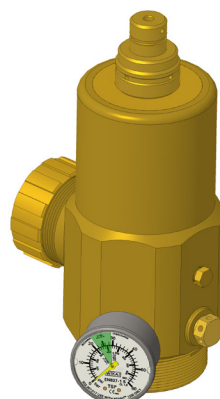

FIGURE 6-19
3. Carefully screw the pneumatic actuator to the top of the subordinate container valve. See Figure 6-19.